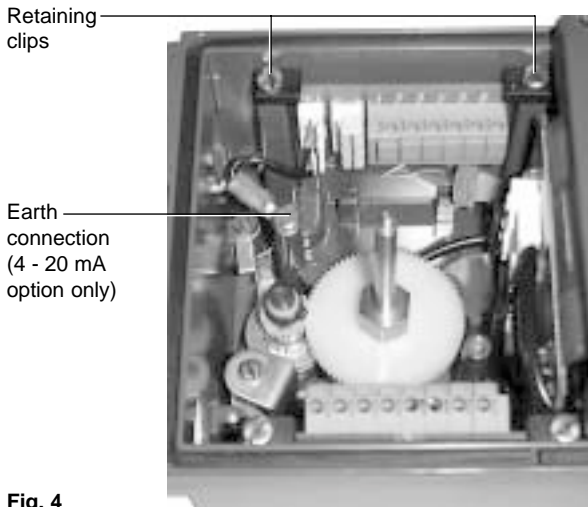

Fig. 4
- 2.2.6** Secure the options PCB in place by locating the two retaining clips and tighten the fixing screws. **Note:** with the retaining clips secured, there will be some float of the PCB (refer to Fig. 4).